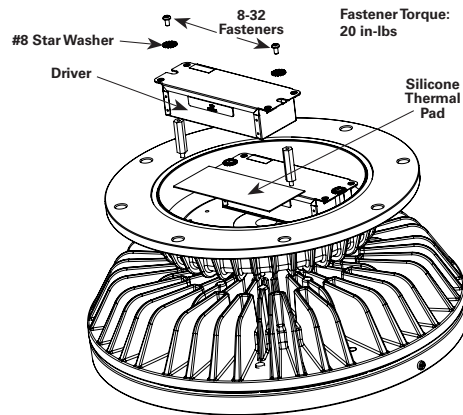

Figure 2
5. Replace the driver(s). Disconnect the line and neutral driver input leads, and the red and yellow LED output leads. Additionally, disconnect the driver dimming leads from the Wago Leverlock connections shown in the wiring diagrams in figures 2 and 3.
6. Remove 8-32 screws, washers, drivers, and silicone thermal pads. (See figure 2) Replacement hardware has been provided.
8. When installing replacement drivers, ensure that the thermal pad, driver, star washer, standoff and fastener are installed. (see Figure 2)